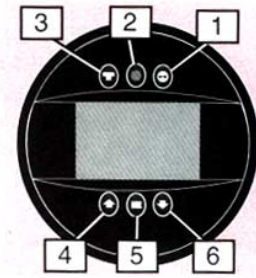

Figure 1-2
- The ignition switch (item 8, Figure 1-2) has four positions:
- The emergency engine safety switch (item 9, Figure 1-2) is an ignition cut-off switch designed to stop the engine in the event of an operator being thrown from the helm seat or moving too far from the helm.
**Horn** - This button (item 10, Figure 1-2) activates the electric horn. Push and hold to sound the horn.
**Instrument and Navigational Light Switch** - A three-position switch (item 11, Figure 1-2) serves as the instrumentation/navigational lighting switch. Push once to activate the bow (red/green light) and all around white light for night running. Push again to operate only the white all around anchored light for anchoring at night. Push again to turn lights OFF.
**Blower Switch** - A two-position switch (item 12, Figure 1-2) activates the engine compartment ventilation blower. Push the switch to turn the blower ON; push again to turn OFF. Run blower at all times below cruising speed.
**Transom Light Switch** - A two-position switch (item 15, Figure 1-2) activates the transom light. Push once to turn transom light ON. Push again to turn OFF.
**Courtesy Light Switch** - A two-position switch (item 13, Figure 1-2) activates courtesy lighting. Push once to turn storage and cockpit lighting ON. Push again to turn OFF.
**Bilge Pump Switch** - A three-position switch (item 14, Figure 1-2) activates the bilge pump. Push the switch once to turn the bilge pump to the manual BILGE ON position. Push the switch again to activate the bilge pump for automatic (AUTO) action while the boat is underway. Push again to turn OFF.